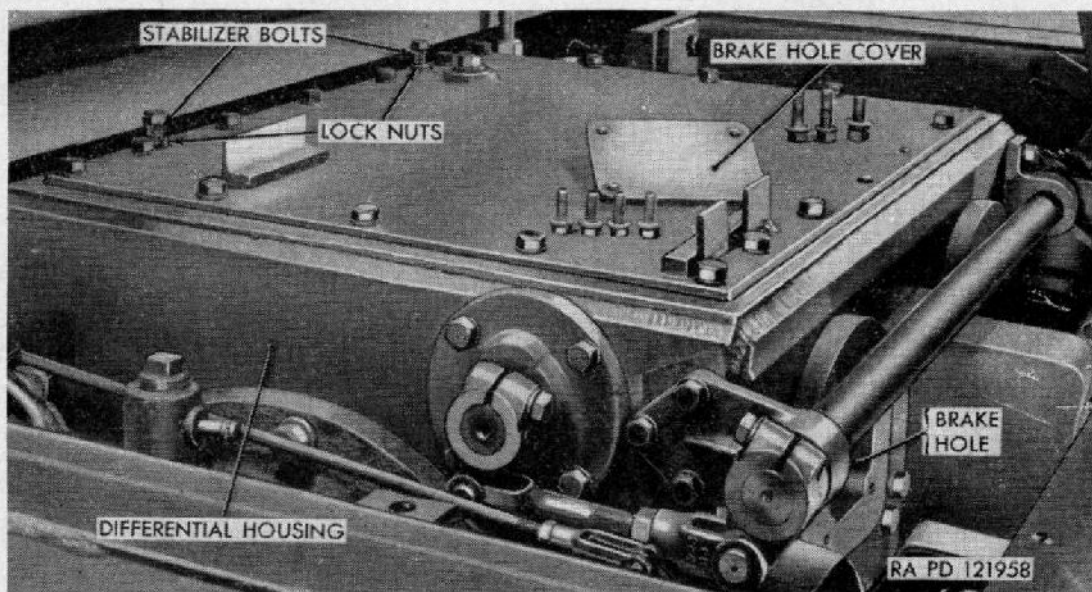
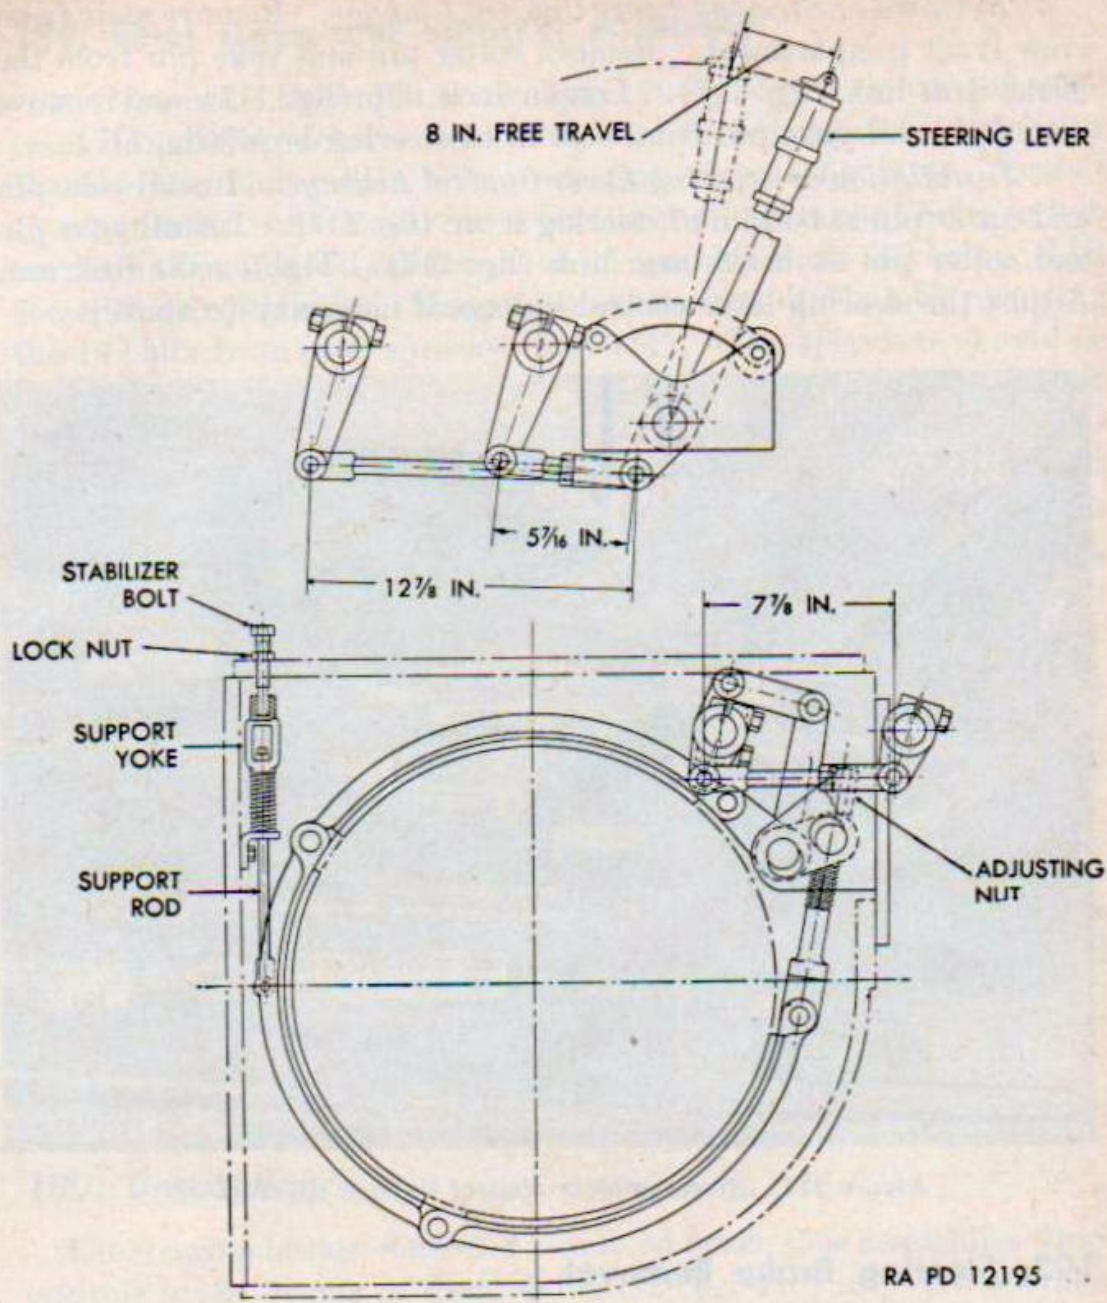
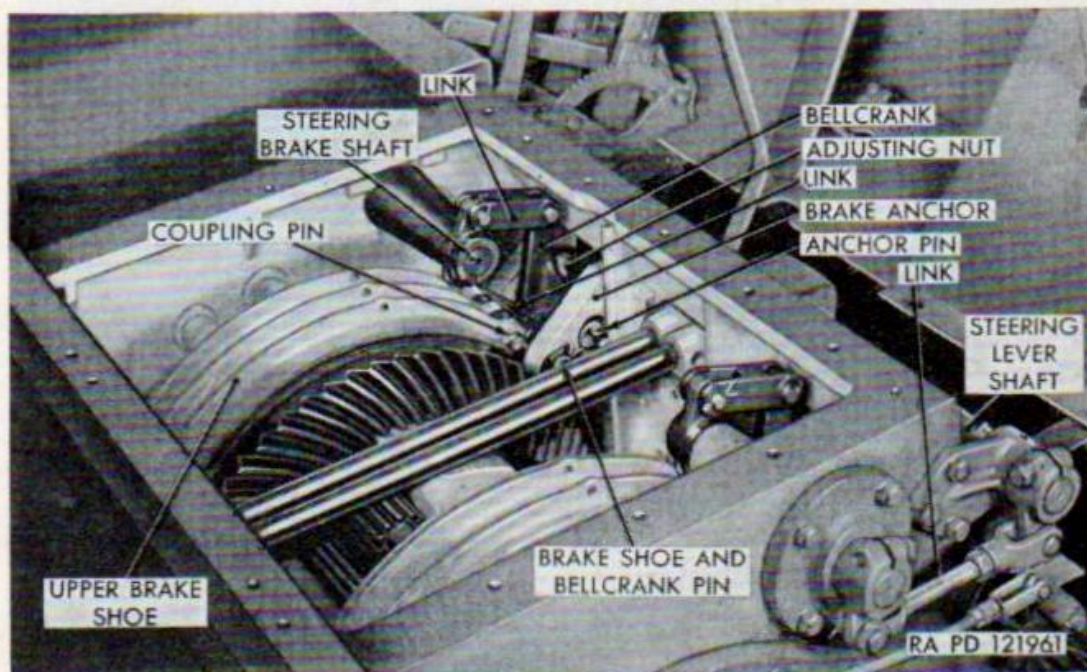

Figure 115. Brake hole cover removed to adjust brakes.
Figure 116. Steering brake adjustment.
Figure 118. Differential cover removed.
The steering brakes consist of two lined brake shoe assemblies which encircle brake drums in the differential (fig. 118) and are operated by the two hand steering levers (fig. 6). Contracting the brake shoes of either brake around its drum sets the planetary gears in motion, causing the track on that side to slow down and the track on the other side to speed up to turn the vehicle. Locks are provided on top of the levers to engage the ratchets to lock brakes in contracted position for parking the vehicle.
a. General. A slight clearance must be maintained between the brake drums and brake bands. This clearance is obtained by adjusting the stabilizer bolts that contact the support yoke at rear of brake and the adjusting nut on yoke that supports the brake band at the front (fig. 116). With the proper clearance between bands and brake drums, the steering levers will have 8 inches free travel at the top
- (1) *Adjust free travel of levers.* Remove seats from front compartment. Remove five cap screws and one bolt, and lift curved plate on front of differential. Remove four cap screws from each brake hole cover from front side of differential case (fig. 115), and remove these covers. With levers forward against stop, measure the distance between dash and tops of steering levers. Then hold rule in same position and pull each lever back to point where pressure is felt and engagement of brake begins. Turn large adjusting nuts (reached through brake holes) clockwise to decrease free
- (2) *Adjust stabilizer bolts.* Loosen lock nuts on stabilizer bolts, and turn bolts out until all pressure is relieved from the bottom of bolts. The lower part of the brakes will at that time contact the brake drums due to spring pressure. Then turn each bolt back in until it is felt to contact the support yoke in which it seats (fig. 116). Turn bolt in one-sixth turn more after it contacts yoke to provide the proper clearance between the brake band and drum, and tighten the lock nut. Recheck the free travel of levers; readjust if necessary. Install brake hole covers and curved plate.
a. Remove Differential Case Cover. Remove seats, cushions, and plates from front crew compartment. Remove two cap screws and remove shifter lever guide. Remove five cap screws and one bolt, and remove curved plate in front of differential. Remove oil level gage rod from differential cover. Remove lock nuts and turn stabilizer bolt up and out of rear brake band support yoke pins (fig. 115). Remove remaining cap screws from cover and lift it from differential (fig. 118).
b. Disconnect Brake Linkage and Remove Brakes. Remove brake hole covers from front side of differential case by removing four cap screws from each cover (fig. 115). Remove each brake separately. Loosen adjusting nut (fig. 116) on upper end of yoke bolt until all pressure is relieved on yokes and pins. Remove coupling pins (fig. 116) from front and rear ends of top brake shoe and remove upper
b. Install Differential Cover. Position new gasket on differential, then lay the cover on differential case and install all the attaching cap screws (fig. 115) and lock washers, except those that also attach the curved plate and lever guide. Install lever guide with two cap screws and lock washers. Install brake hole covers with four cap screws and
lock washers (fig. 115). Install curved plate in front of differential case with five cap screws and one bolt. Install stabilizer bolts in differential cover and into the brake band support yokes (fig. 115). Tighten lock nuts.